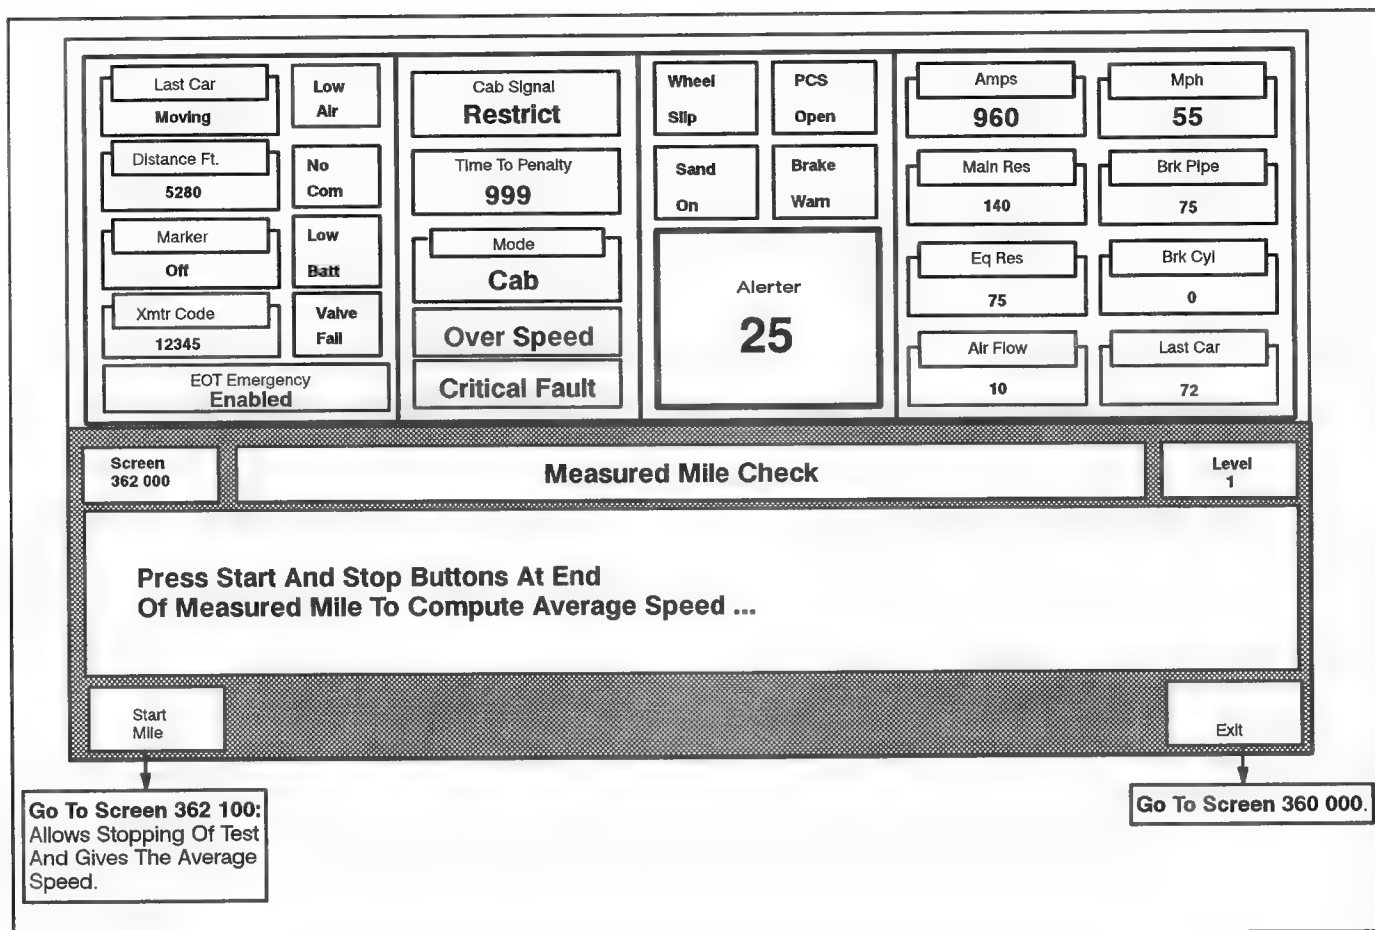

FIG. 49. MEASURED MILE TEST SCREEN (362 000). E-40986.
2. Pressing key position F2 (**Measured Mile**) will display screen 362 000 (Fig. 49).